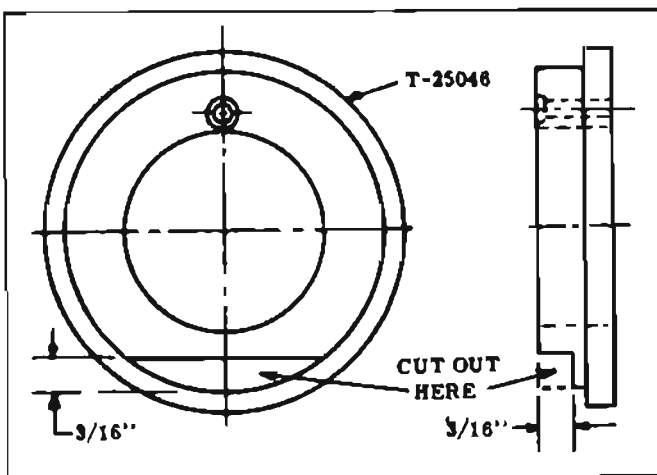

Figure 3-72—Alteration of First Type Gauge T-25046
17. Set choke valve in proper relation to vacuum piston, using Piston Setting Gauge T-25046. **NOTE:** *First type Gauge T-25046 must have a segment sawed from inner end as shown in figure 3-72, in order to provide clearance for raised section in lower side of choke housing. Second type gauge (T-25046) has inner end reduced in diameter to provide clearance.*